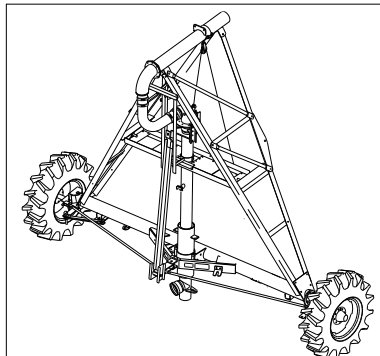

Figure 24-3 2 Wheel EZ- Tow Pivot
- 2 Wheel EZ-Tow Pivot. See figure 24-3.